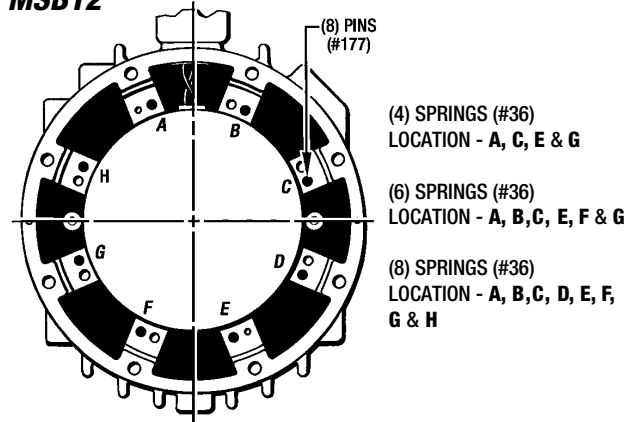

Figure 7.7 - Correct Placement of Brake Springs (#36)
- Note the quantity and position of Springs (#36). Make a sketch of their location to help you at reassembly or as shown in Figure 7.7.
- Remove the (4) Screws (#150) and (4) Seal Washers (#167) from the End Housing (#9). Lift the Holding Coil (#59) out of the End Housing (#9).
- Set the End Housing (#9) so the Coil (#59) is facing upright. Install the Brake Springs (#36) as described below and shown in Figure 7.7.
- Place the correct number of Springs (#36) over the Pins (#177 as shown in Figure 7.7 .
- Set the Armature Plate (#56) and Thrust Plate (#5) in position on the Springs (#36). Insert the (4) Shoulder Bolts (#144) and tighten down evenly to compress the Springs (#36). **Use Blue Loctite #242 and torque to 25 Lb. Ft.**